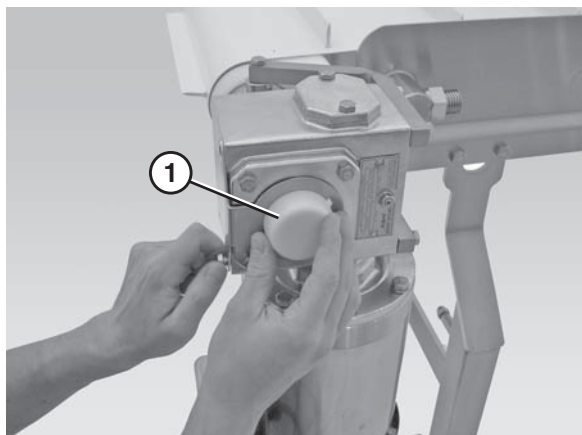

Figure 21
6. Attach the drive spindle cover (Figure 21, item 1).